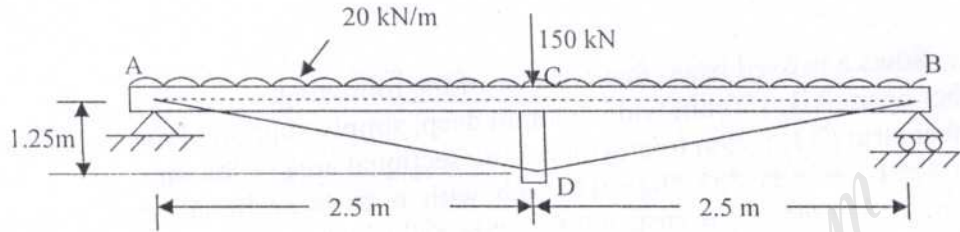

Fig. Q. 2
Q. 2) Fig. Q.2 shows a trussed beam that consists of the following: